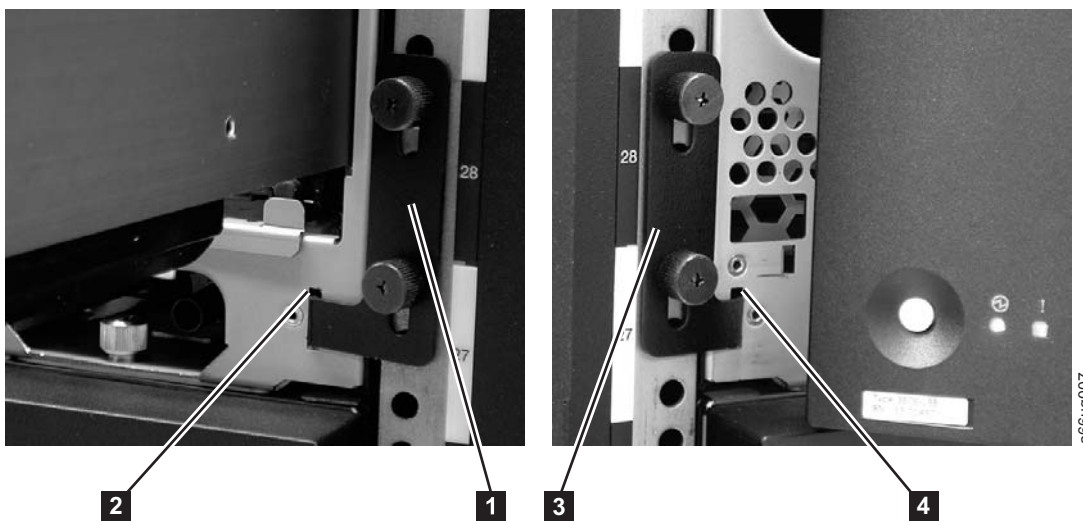

Figure 12-9. Removing the rack ears (Control Module shown)
2. Remove the right rack ear (**1** in Figure 12-9).
3. Remove the left rack ear (**3** in Figure 12-9).
2. Replace the right rack ear (**1** in Figure 12-9).
- a. At the bottom right of the I/O Station position on each library unit, there is a slot (**2** in Figure 12-9). Insert the right rack ear into the slot.
3. Replace the left rack ear (**3** in Figure 12-9 on page 12-12).
- b. Insert the left rack ear into the slot (**4** in Figure 12-9 on page 12-12).